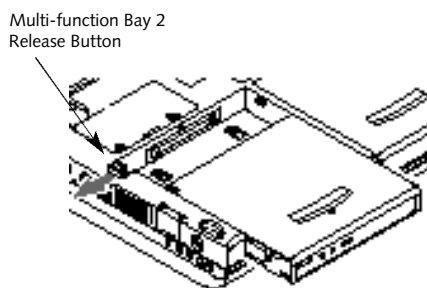

Figure 4-3 Removing and Installing a Device in Multi-function Bay 2
5. With the module connector toward the back of your notebook align the grooves on the side of the device with the tracks in the side of the bay. (Figure 4-3.)